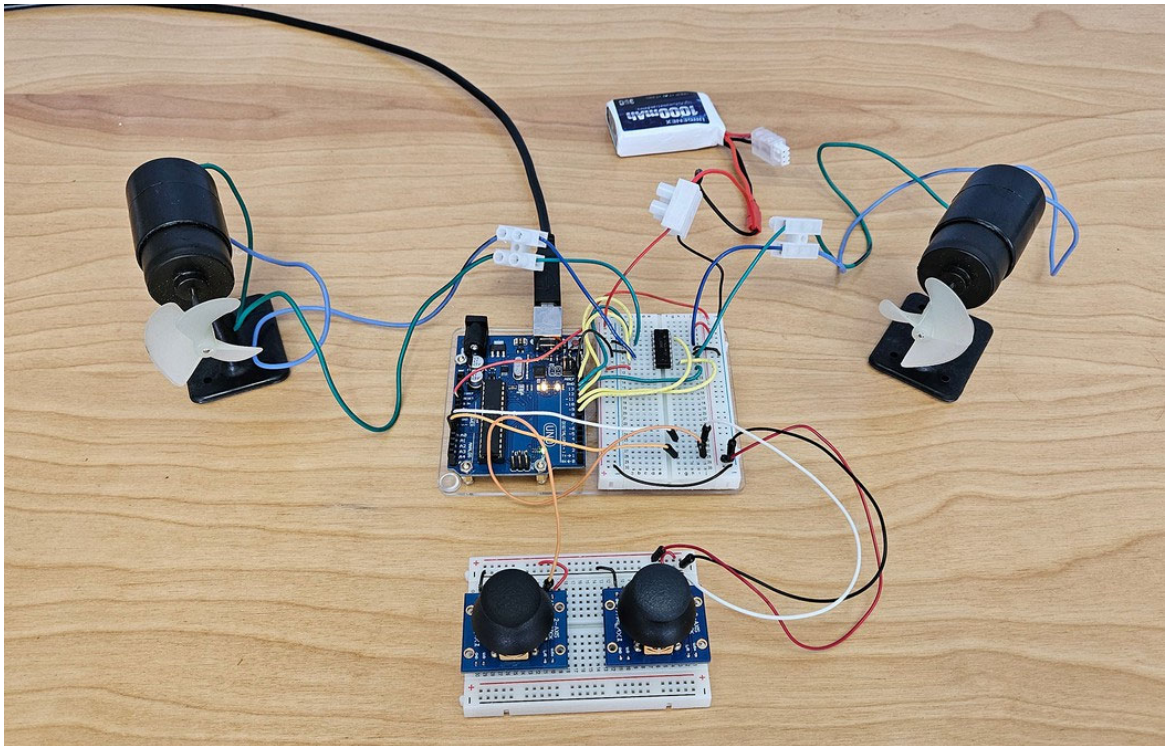

Figure 4. Circuit assembled for testing before mounting in the ROV case.
3. Before you worry about physical construction and waterproofing your ROV, you should build and test the circuit. This will help you make sure that your motor control and any sensors are working properly. It will be much easier to change your circuit now than after everything is mounted to the ROV. Figure 4 shows a picture of the assembled example circuit. It has several main components: the Arduino, one breadboard for the H-bridge and motor connections, one breadboard for the joysticks, the two underwater thrusters, and the lithium battery (which powers the whole system). The next step includes detailed instructions for building the circuit.